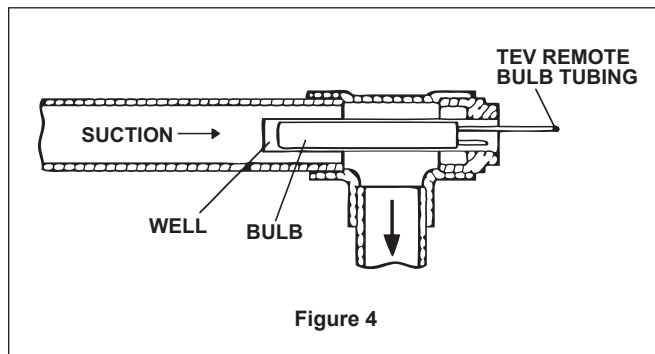

Figure 4
- (1) when very low superheats are desired, and (2) where convected heat from a warm room can influence the remote bulb. (See Figure 4.)
The rapid response bulb and well provide the extra quick closing action necessary for positive protection against liquid flood-back as well as the smooth control necessary for optimum system performance. Figure 4 illustrates the proper method of installation. The rapid response bulb may be used in either horizontal or vertical suction lines.